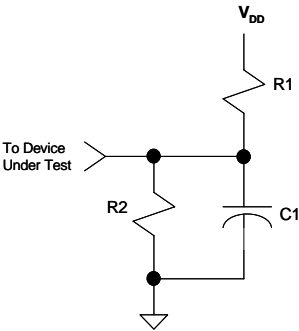

Figure 5: AC Test Load
6. With loads specified in Figure 5 on page 28, Test Load A from Table 8.
7. With loads specified in Figure 5 on page 28, Test Load B from Table 8.